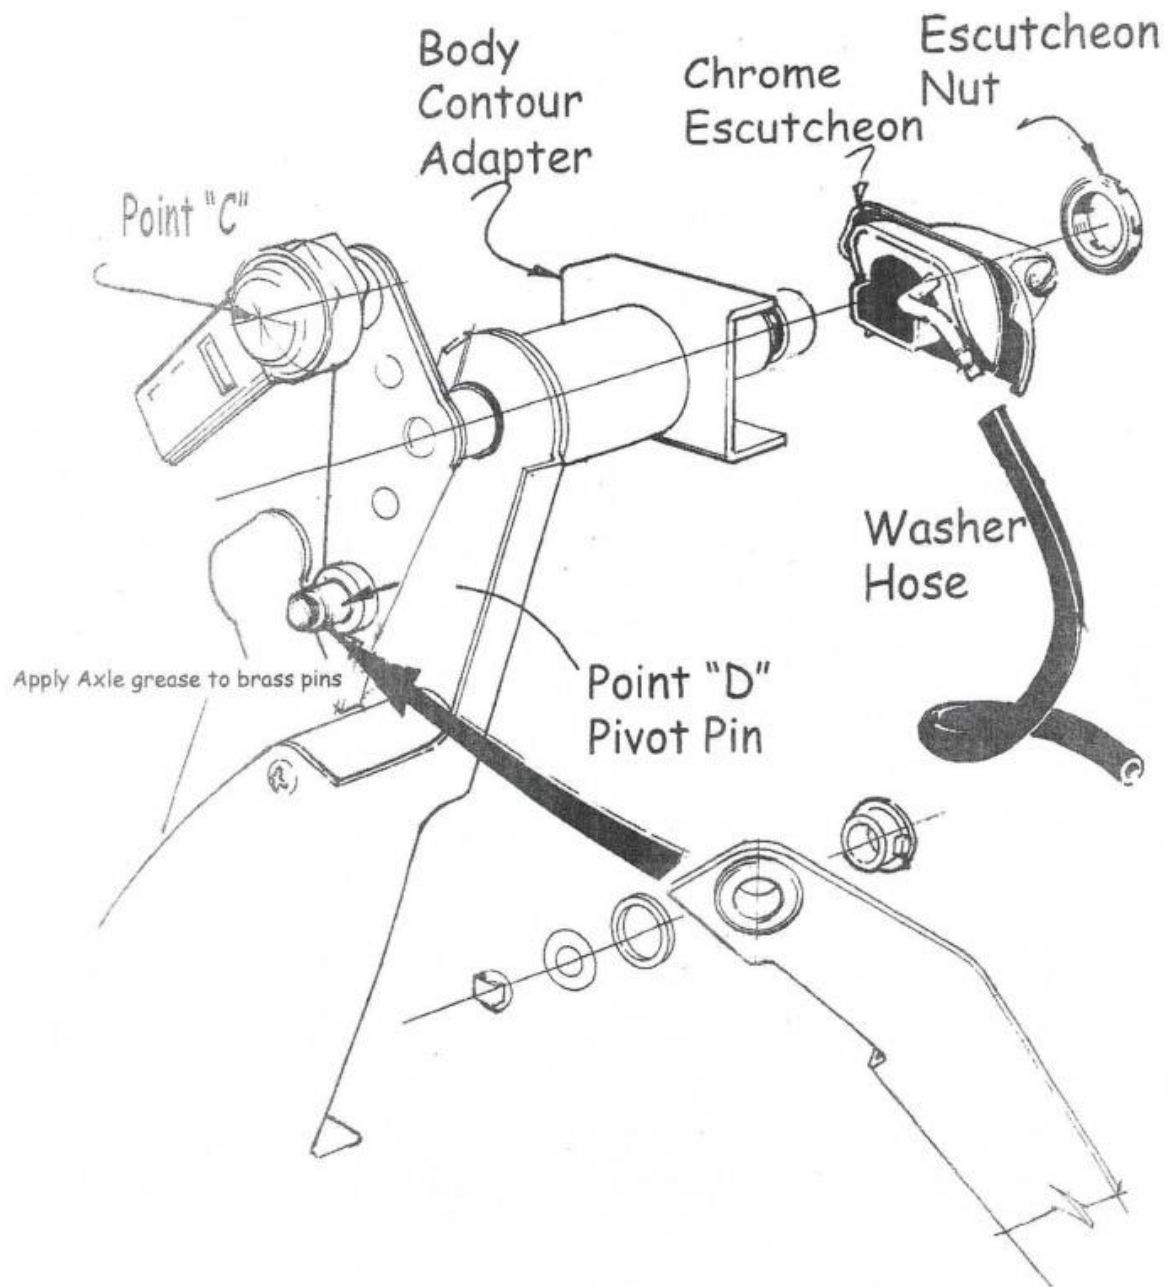

Figure 2
- Place the "u" shaped body contour adapter onto the pivot shaft of the left-hand drive assembly (see figure 2).
- Using a thin washer and j-clip, attach the longer half of the cross-link to the right-hand pivot shaft (see figures 2 & 5).